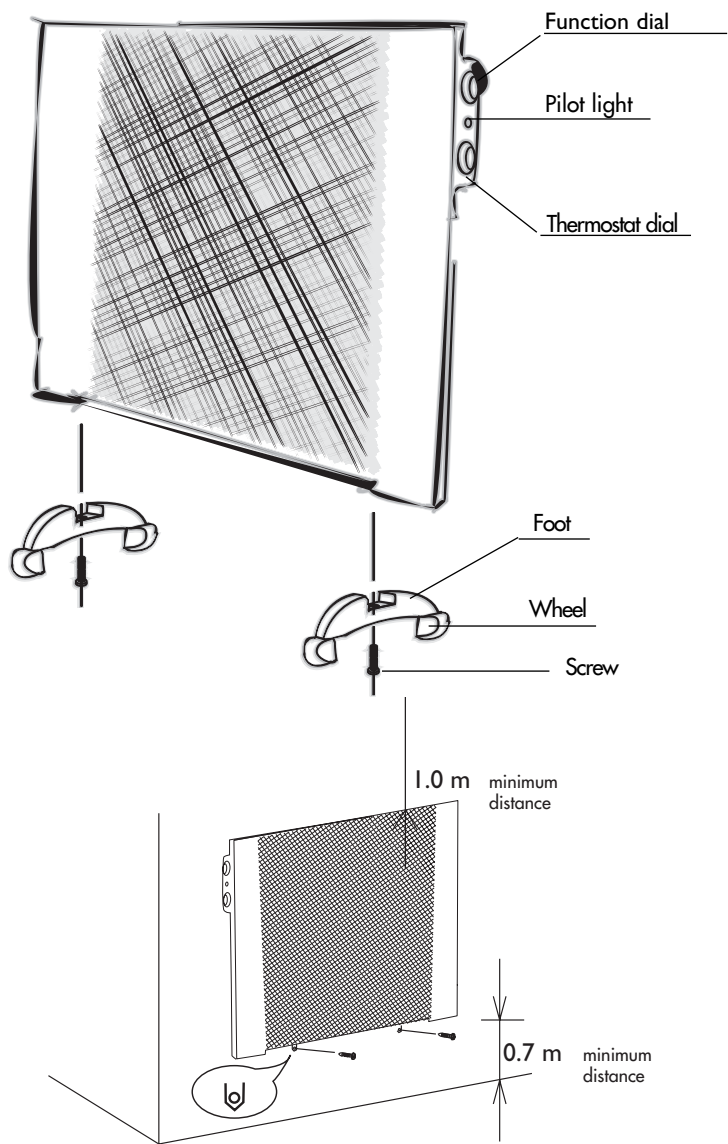

fig. 1
- If wall-mounting this appliance, the minimum distances from other objects must be followed, as shown in fig 1.
6. Mark out the 2 lower fixing points (see fig.1). Remove the appliance, drill the lower holes and insert the wall plugs. Now, you can hang the heater to the support and fix the lower part of the appliance with the 2 remaining screws (see figure1).